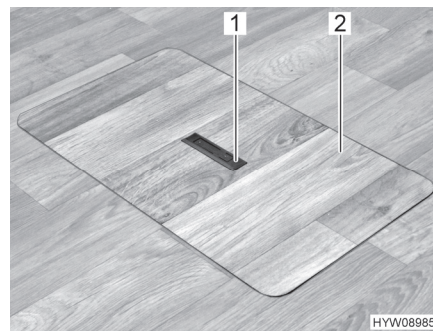
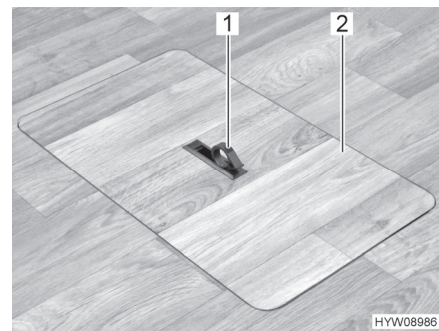

Fig. 77 Floor storage compartment cover (handle recessed)
Fig. 78 Floor storage compartment cover (handle swung out)
- Push one side of the grip plate (Fig. 77,1) downwards. The handle (Fig. 78,1) swivels upwards.
- Remove the cover (Fig. 78,2) upwards.
- Insert the cover (Fig. 78,2) in the frame on the floor.